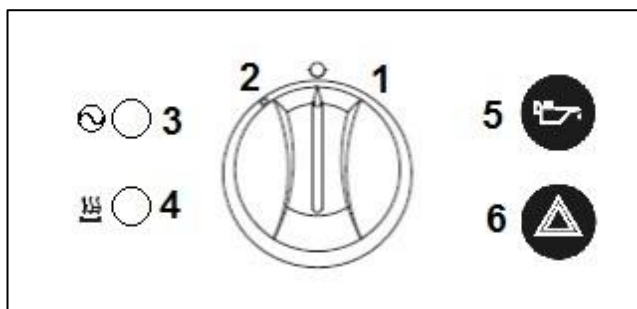

Figure 3 – E3840X & E3840FX Control Panel
3.3.2 E3840X & E3840FX Fryer Control Panel (See Figure 3)